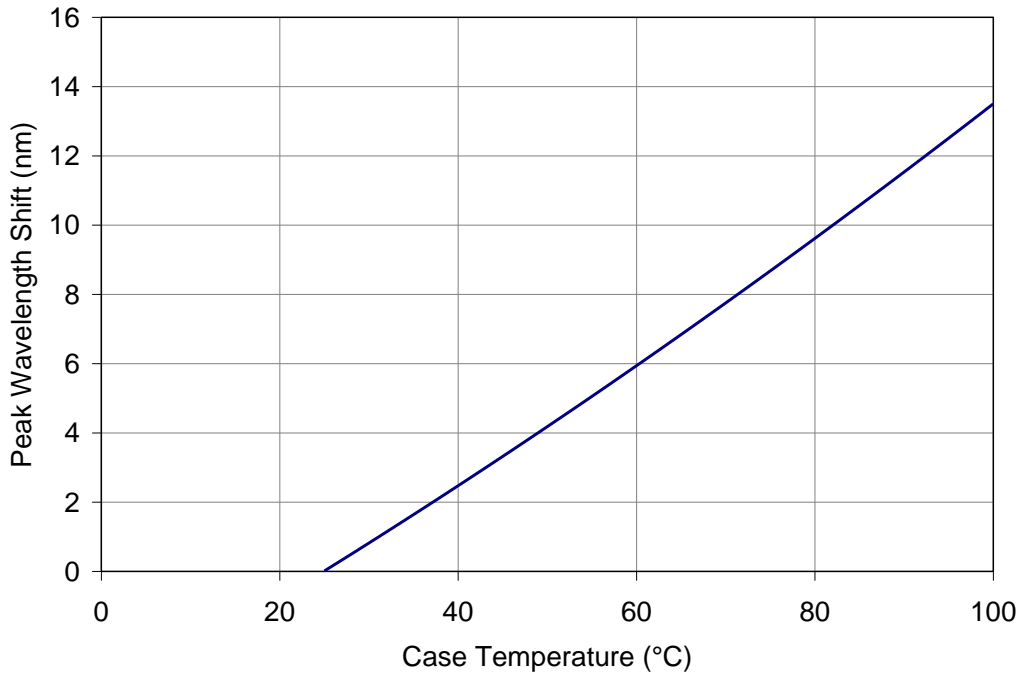

Figure 10: Typical peak wavelength shift vs. case temperature
- Maximum DC forward current (per die) is determined by the overall thermal resistance and ambient temperature. Follow the curves in Figure 10 for current derating.